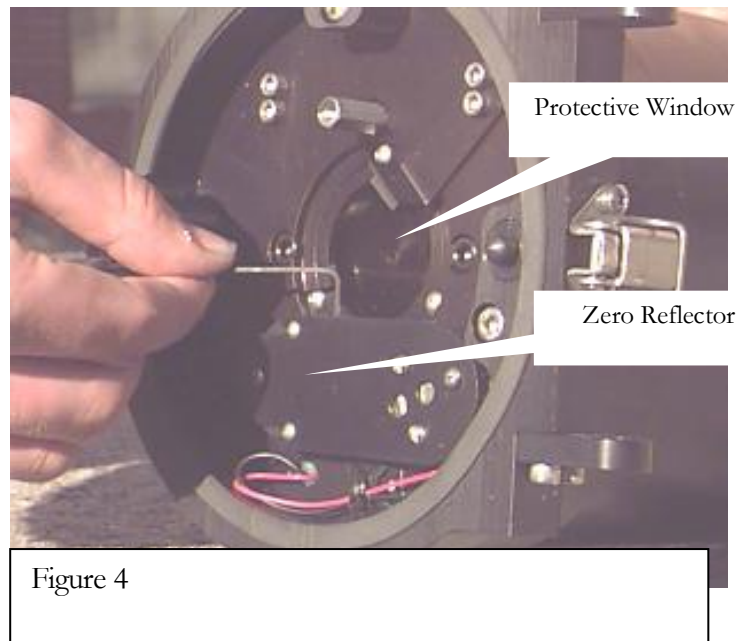

Figure 4
1. Swing both the retro and transceiver open and clean the protective windows (see Figure 4). Return both to the closed position.
5. Insert a 1/16" Alan wrench into the adjustment set screw located on the top of the zero reflector (**see figure 4**). Turn set screw clock-wise 1/8 turn.